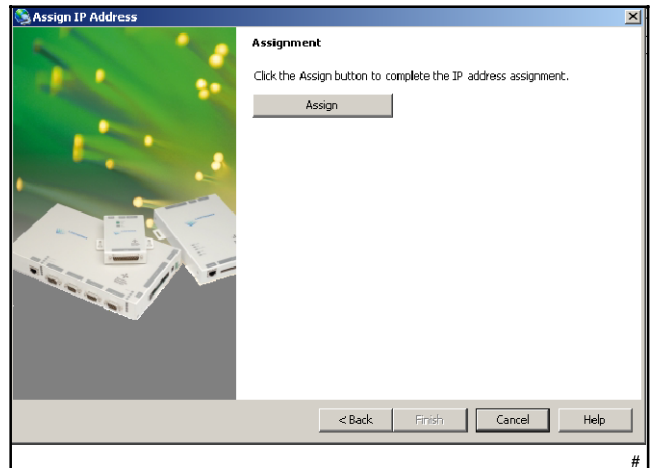

Figure 32 Assignment
10. Click the *Assign* button in the next window to assign the IP settings, or click *Cancel* to discard changes and close the wizard. See Figure 32.